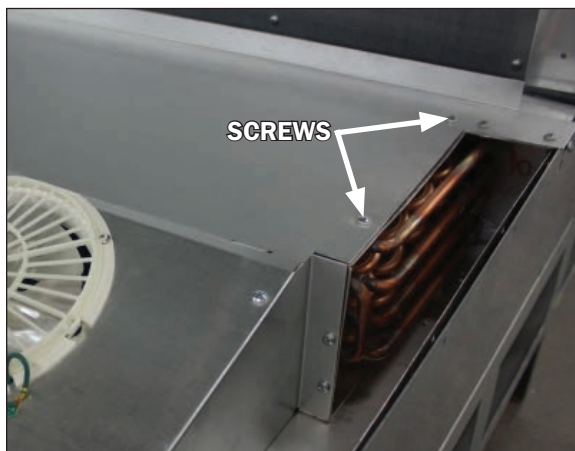

Fig. 19 Coil cover removal
2. Remove the top two screws at both ends of the coil cover (Fig. 19), as well as the screws from the top ends and front sill of the pressure plate cover (Fig. 16). **Be sure to save the removed screws for reassembly.**